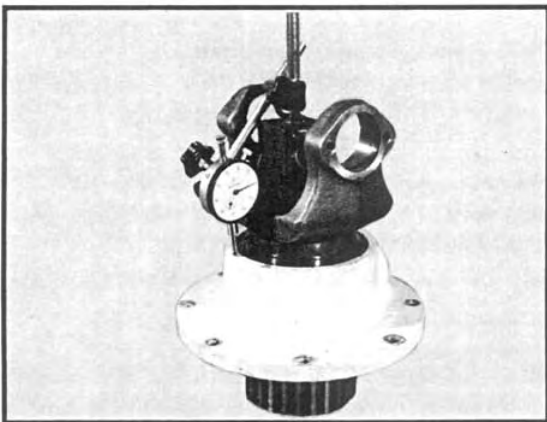

Fig 41
- Install a dial indicator as depicted in Figure 41. Lift upward on the carrier assembly and note the shaft end float on the dial indicator. If the end float is not within specification (.003 to .008 in.), it will be necessary to disassemble the shaft following Steps 2 and 3 under "FRONT OUTPUT SHAFT DISASSEMBLY" above. Measure the thickness of the original spacer ring and select a new ring to provide end float within specification. See Item 7 on P.10 in the parts manual for a list of available spacer rings. Be sure to recheck the shaft end float after the new spacer ring is installed.